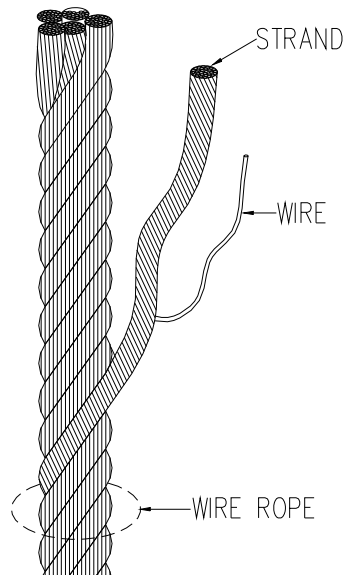

Figure 6-2.
- (b) Six randomly distributed broken wires in one rope lay. A rope lay is the length of rope along which one strand makes a complete revolution around the rope. See Figure 6-2. Keeping the rope clean and wound evenly on the drum will increase its life and efficiency.